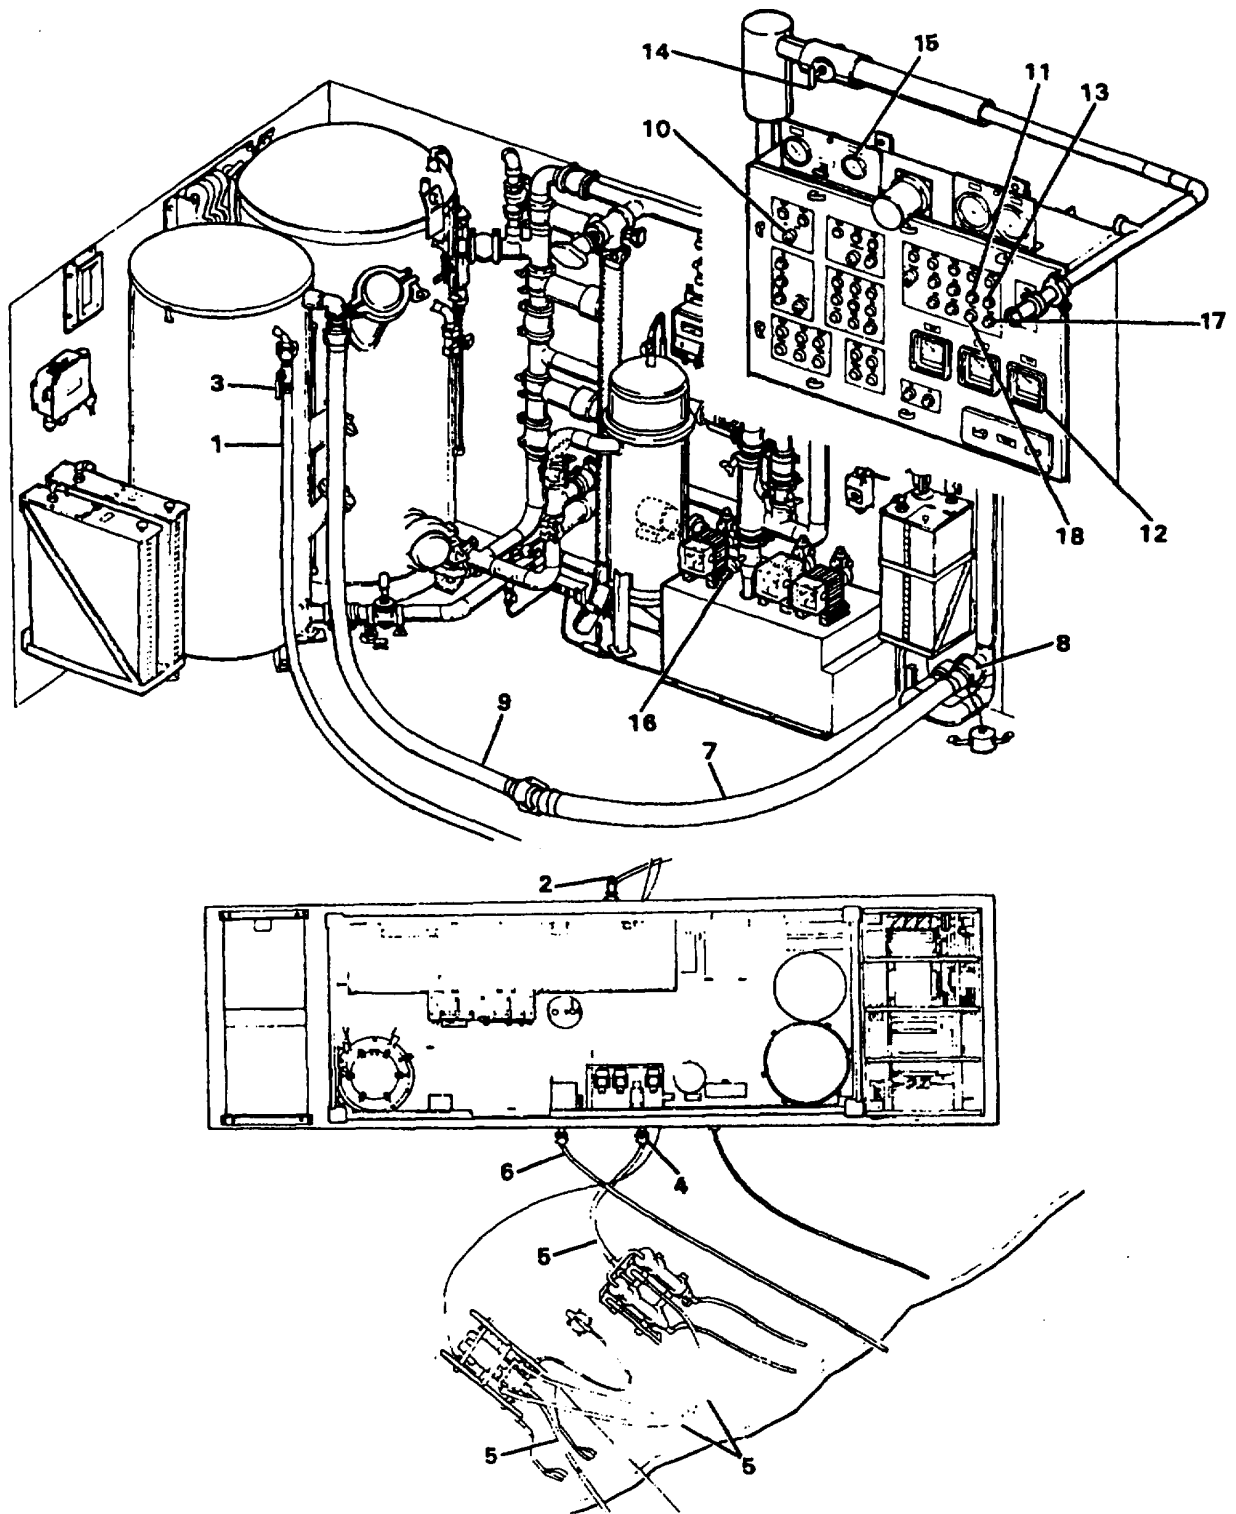

Figure 2-78. Emergency Thaw Out
- a. Emergency Thaw Out (Figure 2-78). Use this procedure if a high pressure drop is indicated on the media filter pressure gage during the media flush at start-up, following a freeze up (see para. 2-31f (2)(f)).